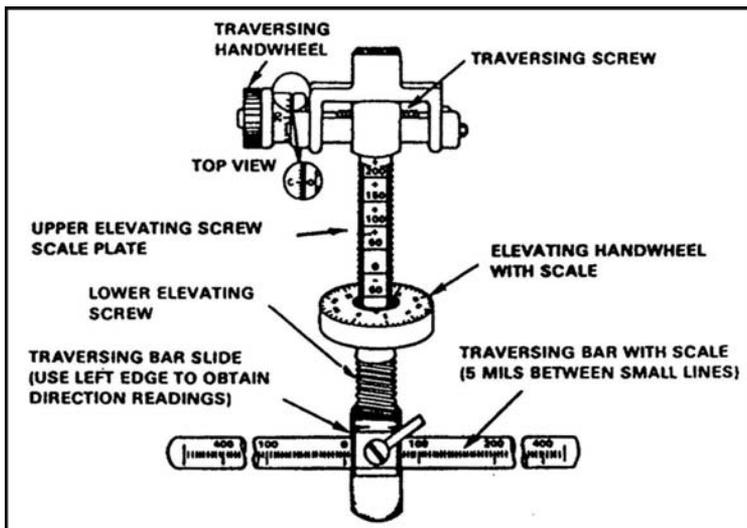

Figure 071-000-0005-4. Traversing and elevating mechanism
- (1) Label the range (in meters) from the gun to each target in the secondary sector.
- (2) Sketch aiming and elevation stakes between the gun position and the target as shown in figure 071-000-0005-2 and figure 071-000-0005-3.
5. Using the T&E mechanism, determine the direction, elevation, and range to each target. Write this information in the DATA SECTION of the range card as follows (figure 071-000-0005-2 and figure 071-000-0005-3):
(1) Lay the gun on the base of the target.
(2) Read the direction on the traversing bar at the left edge of the traversing bar slide (figure 071-000-0005-4).
(3) Determine by the direction of the barrel whether the reading is right or left.
(1) Lay the gun on the base of the target by rotating the elevating handwheel (figure 071-000-0005-4).
(2) Read the number (including a "+" or "-" sign, unless the number is "0") above the first visible line on the elevating scale. (In figure 071-000-0005-4, this reading is "-50.")
(3) Read, from the elevating handwheel, the number in line with the indicator. (In figure 071-000-0005-4, this reading is "3.")
6. Record the data you found using the T&E mechanism (figure 071-000-0005-4).